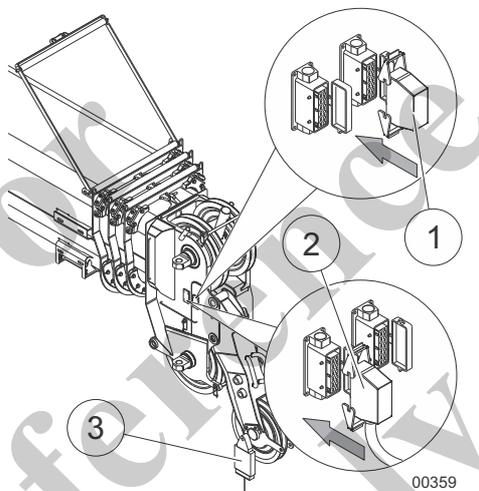

Fig. 246 Attaching the lifting limit switch of the auxiliary jib to the telescopic boom
| 2 | Unplug the bypass plug (1) in Fig. 246 from the left bush on the telescopic boom head and plug it into the right bush. |
| 3 | Attach the lifting limit switch (3) in Fig. 246 to the auxiliary jib and insert it into the left power socket on the telescopic boom (2) in Fig. 246. |